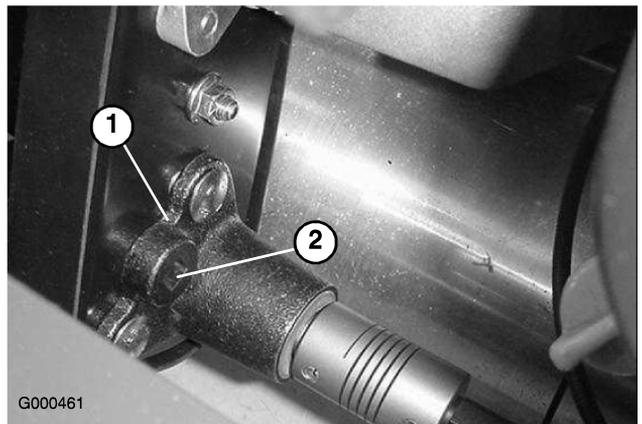

Figure 37
- B. Using a 3/8 in. drive torque wrench, rotate the bearing housing with 35-40 in.-lb. of torque to set belt tension (Figure 37).